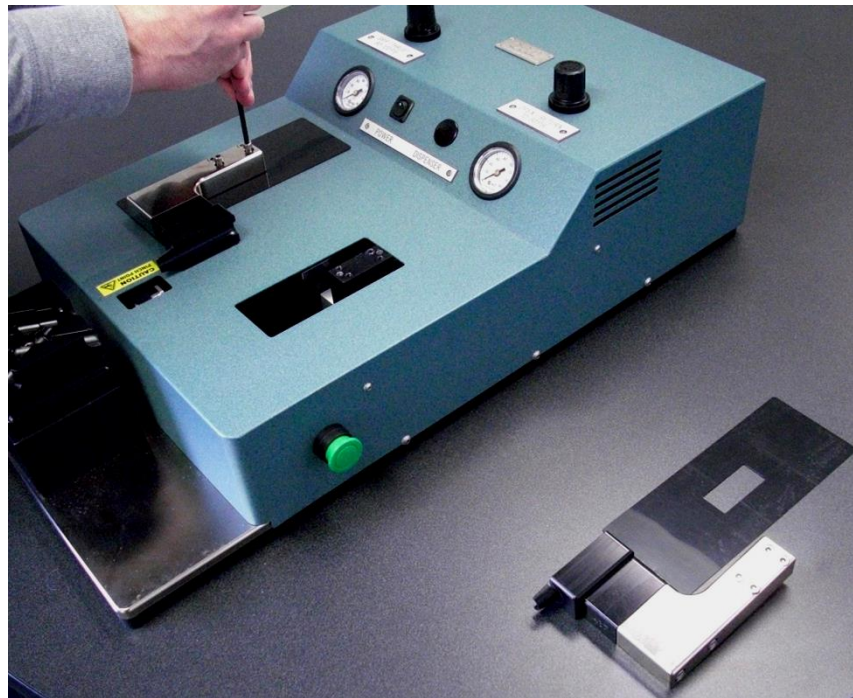

Figure 22: Jaw and cover plate removed
- Remove the blocks and cover plates as shown below in Figure 22.